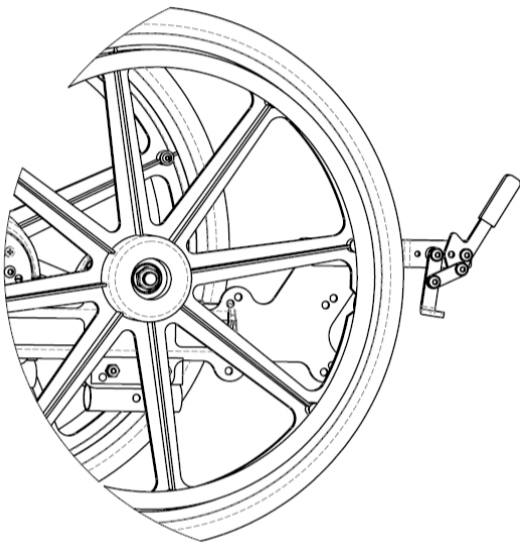

Figure 14.37: Attendant Wheel Lock (Push to Lock)
3. To engage the attendant wheel lock (see Figure 14.37), pull the lever towards the wheel until it locks into place.